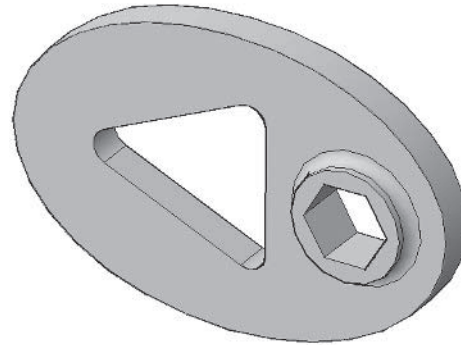
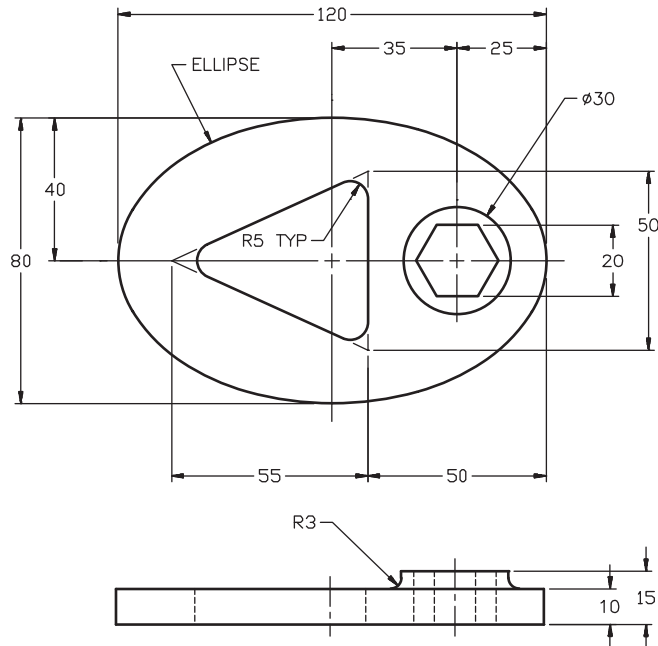

Fig. 45-17
Fig. 45-18
1. Use the **PRESSPULL** command to model the plate shown in Fig. 45-17. The dimensions are given in the orthographic projections in Fig. 45-18.
Use the **FILLET** command to create a fillet where the boss joins the main part of the plate. After you have finished the model, produce an isometric view in the **Conceptual** visual style. The drawing should look like the one in Fig. 45-17.